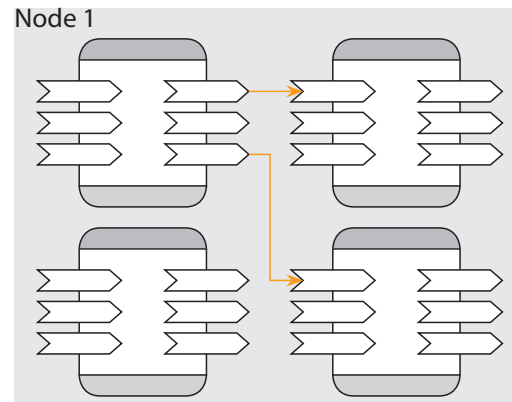

Figure 2 Internal Bindings
- Bindings that connect two or more objects within the same control are called internal bindings (Figure 2). An internal binding connects an output variable from one object to the input variable on another object. Both objects reside within the same control.